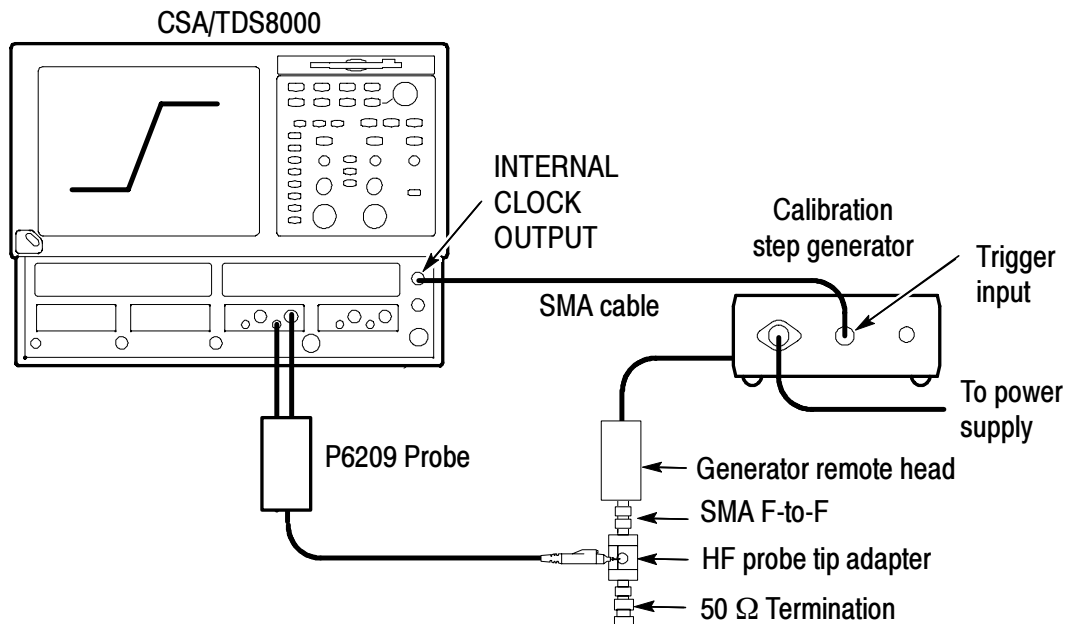

Figure 15: Test system and probe rise time setup
The following steps instruct you to assemble the test system that includes the probe, as shown in Figure 15. The system and probe rise time (t_{s+p}) that you measure in step 8 is used to calculate the probe rise time (t_p) in step 9.
5. Connect the test equipment as shown in Figure 15.
7. Adjust the oscilloscope horizontal and vertical position controls to display a signal similar to that shown in Figure 15.